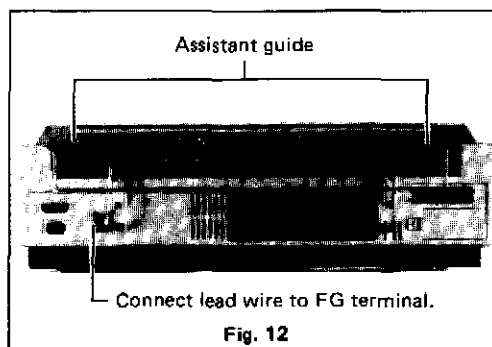

Fig. 12
- On this occasion, connect the lead wire from the assistant guide to the FG terminal of the main body. Thus, wrong operation of the equipment caused by static electricity generated during paper feed can be avoided. Install it correctly as shown in Fig. 12.